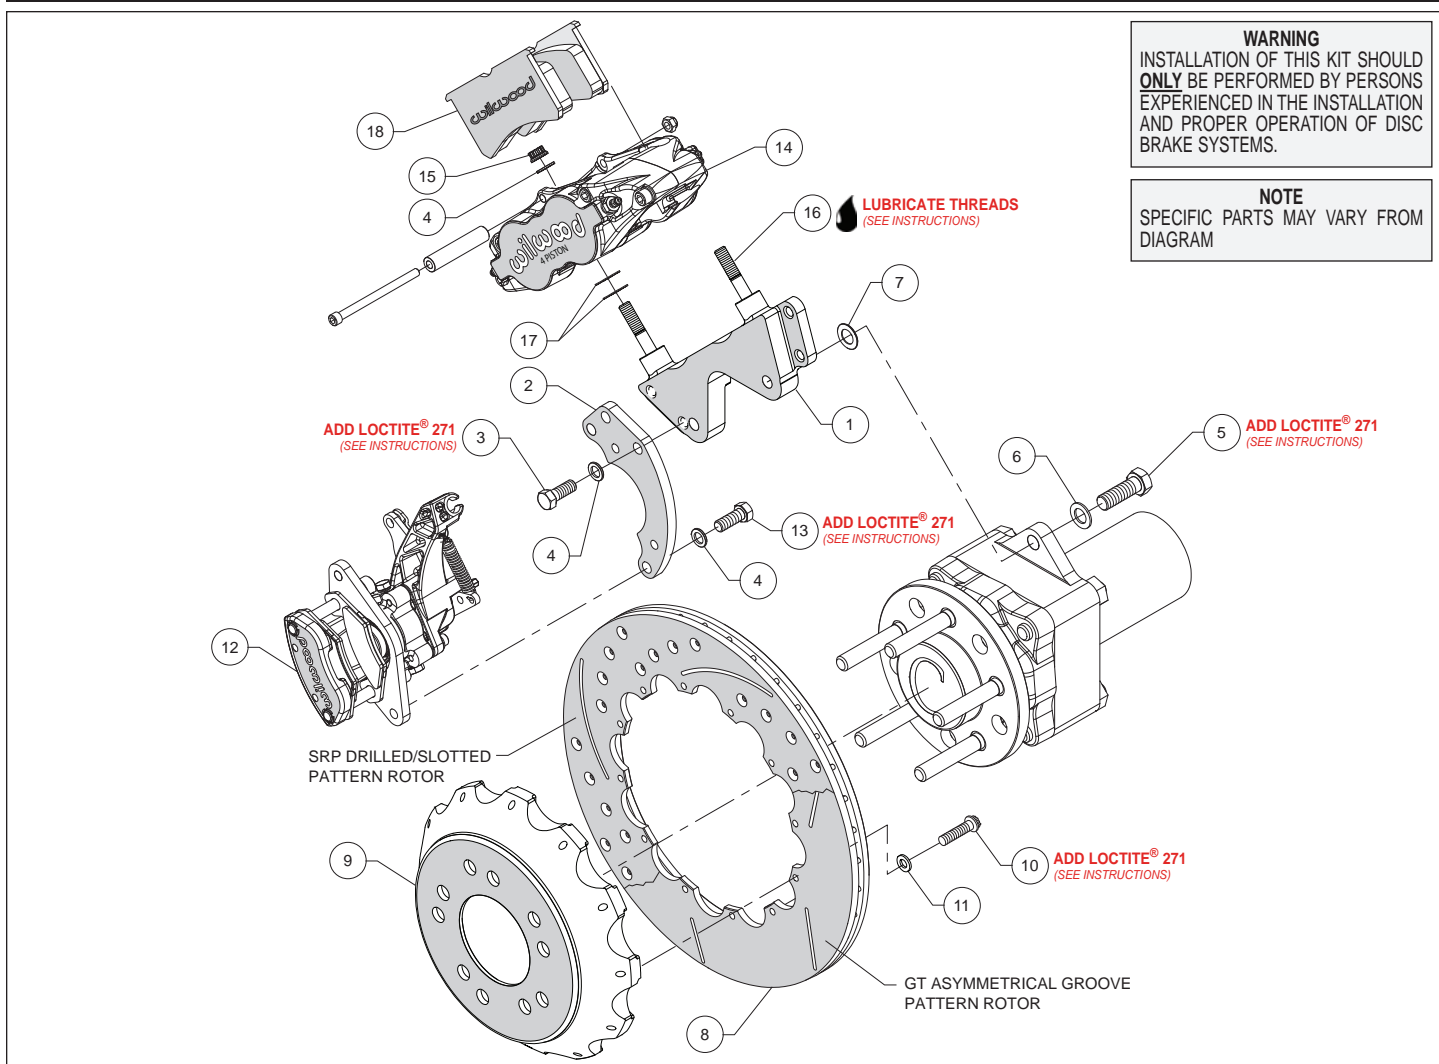
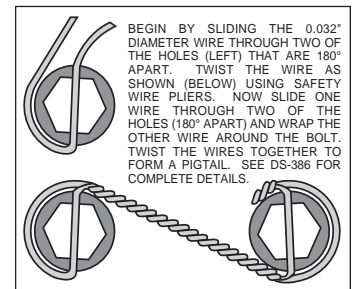

Figure 1. Typical Installation Configuration
Figure 3. Safety Wire Diagram
Assembly Instructions (numbers in parenthesis refer to the parts list and Figure 1 on the preceding pages):
- Attach the MC4 flat caliper bracket (2) to the radial mount caliper bracket (1) using bolts (3) and washers (4) as shown in Figure 1 and Photo 1. Apply red *Loctite*[®] 271 to the bolt threads and torque to 35 ft-lbs. **NOTE:** *The MC4 Bracket may be mounted on either end of the radial mount bracket.*
- The caliper mount bracket assembly (1/2) should initially be installed with clean, dry threads on the mounting bolts. Orient the bracket assembly as shown in Figure 1, and Photo 2, and install using bolts (5) and washers (6). Initially place one .032" thick shim (7) on each bolt between the bracket and axle hub, Figure 1. Temporarily tighten the mounting bolts. **NOTE:** *The bracket must fit squarely against the mount bosses on the axle hub.* Inspect for interference from casting irregularities, machining ridges, burrs, etc. Later, after the caliper alignment has been checked, the mount bolts will be secured using red *Loctite*[®] 271.
- Orient the rotor (8) and the hat (9) as shown in Figure 1 and Photo 3. Attach rotor to hat using bolts (10) and washers (11). Using an alternating sequence, apply red *Loctite*[®] 271 to the threads, and torque to 155 **in-lbs**. For an added measure of security, the bolts may be safety wired using standard 0.032 inch diameter stainless steel safety wire as shown in Figure 3. Please refer to Wilwood's data sheet DS-386 (available at www.wilwood.com/Pdf/DataSheets/ds386.pdf) for complete safety wire installation instructions.
- Lubricate the caliper mounting studs (16) with lightweight oil. Initially place two .035" thick shims (17) on each stud as shown in Figure 1 and Photo 5. Mount the caliper (14) onto the bracket (1) using lock nuts (15) and washers (4), Figure 1. Temporarily tighten the lock nuts and view the rotor through the top opening of the caliper. The rotor should be centered in the caliper, Photo 6. If not, adjust by adding or subtracting shims (7) between the bracket (1) and the mounting bosses. Always use the same amount of shims on each of the two mounting bolts. Once the caliper alignment is correct, remove the bracket mounting bolts (5) one at a time, apply red *Loctite*[®] 271 to the threads, and torque to 77 ft-lb.
- Mount the parking brake caliper (12) onto the lower section of the caliper mounting bracket assembly (1/2) using bolts (13) and washers (4), as shown in Figure 1 and Photo 10. Apply red *Loctite*® 271 to bolt threads, and torque to 30 ft-lb.